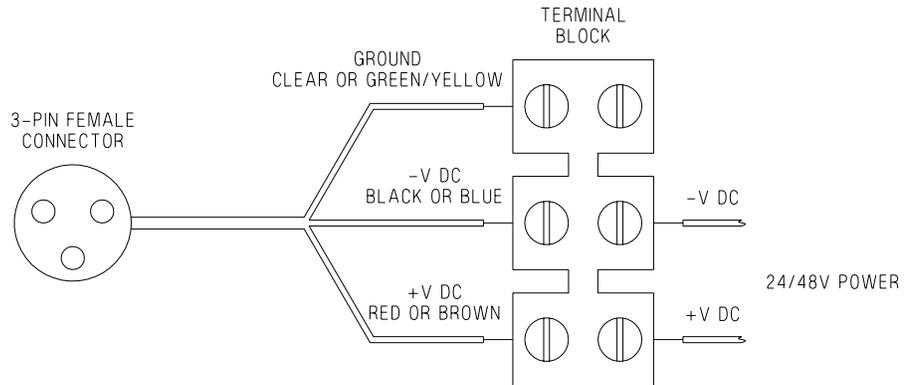

Figure D-5: PAD Power Cable Setup
11. Connect appropriate power to the PAD power cable as described in Figure D-5.